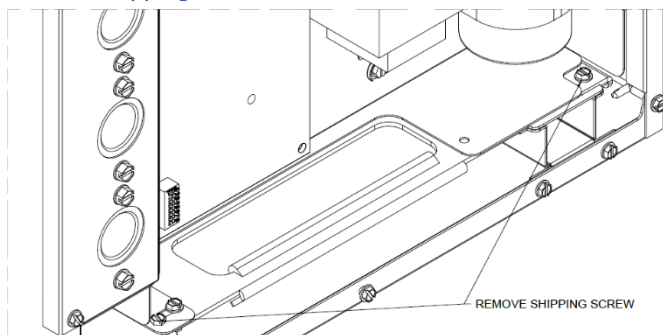

FIGURE 7 - Removal of Shipping Screws
- 11) Ensure that shipping screws are removed from condensing section. Refer to FIGURE 7 - Removal of Shipping Screws for more information.